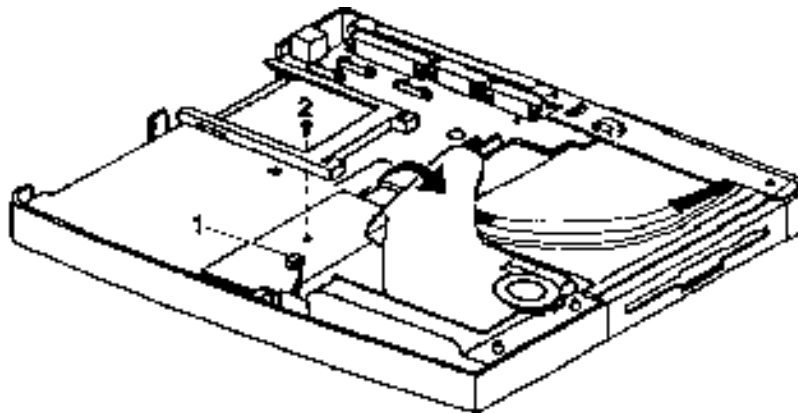

FIGURE 7-11. DC/DCBOARD DISASSEMBLY/REASSEMBLY
2. LIFT ONE END OF THE SHIELD PLATE (FIGURE 7-11 ARROW).
3. UNPLUG THE CABLE (FIGURE 7-11 #1) FROM THE DC/DC BOARD.
4. REMOVE ONE SCREW (FIGURE 7-11 #2) AND LIFT THE DC/DC BOARD DREE.
1. FIX THE DC/DC BOARD INTO PLACE AND REPLACE THE SCREW (FIGURE 7-11 #2).
2. RECONNECT THE CABLE (FIGURE 7-11 #1).